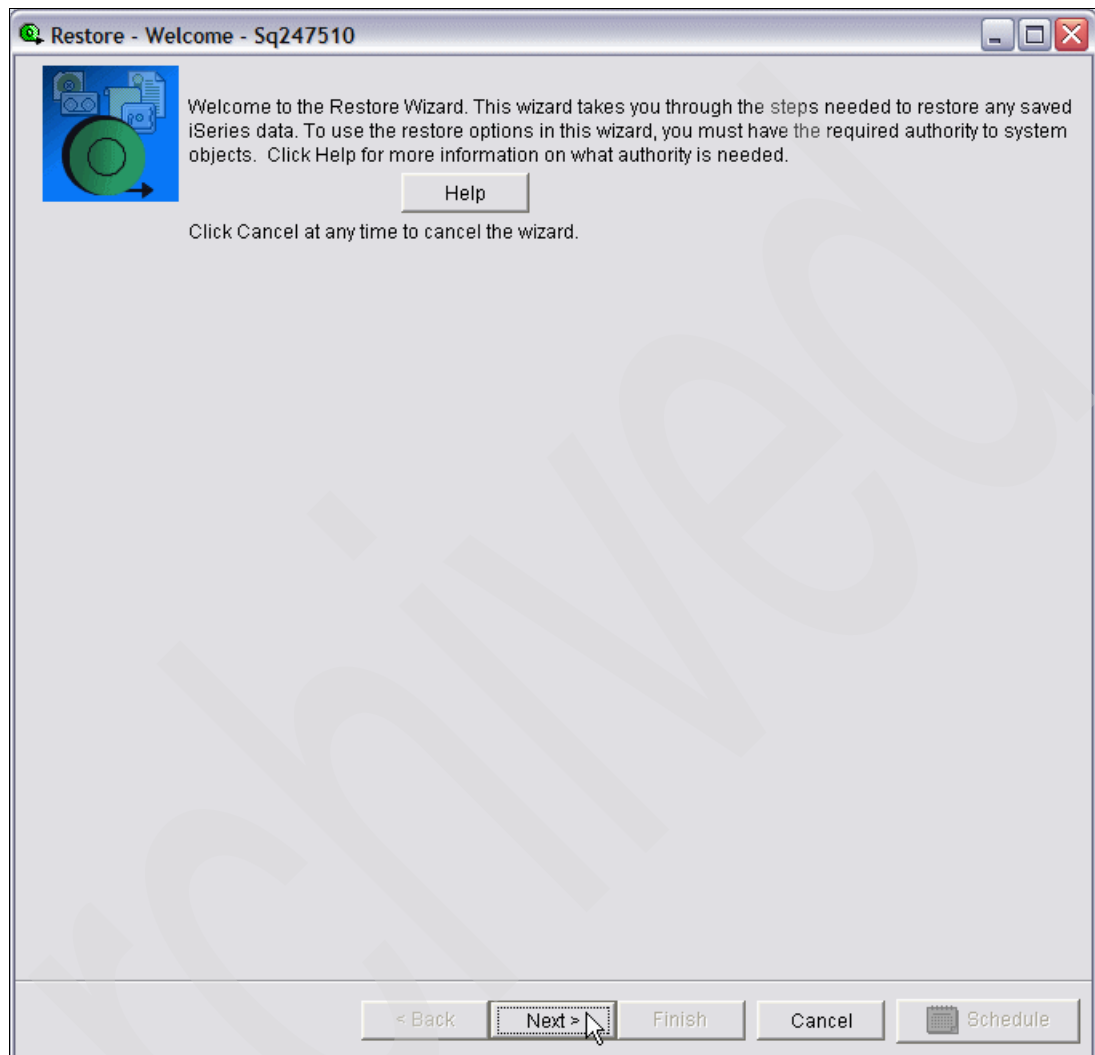

Figure 6-99 *Restore - Welcome*
5. After you are done selecting what objects to restore, you get the Restore Wizard Welcome window shown in Figure 6-99.